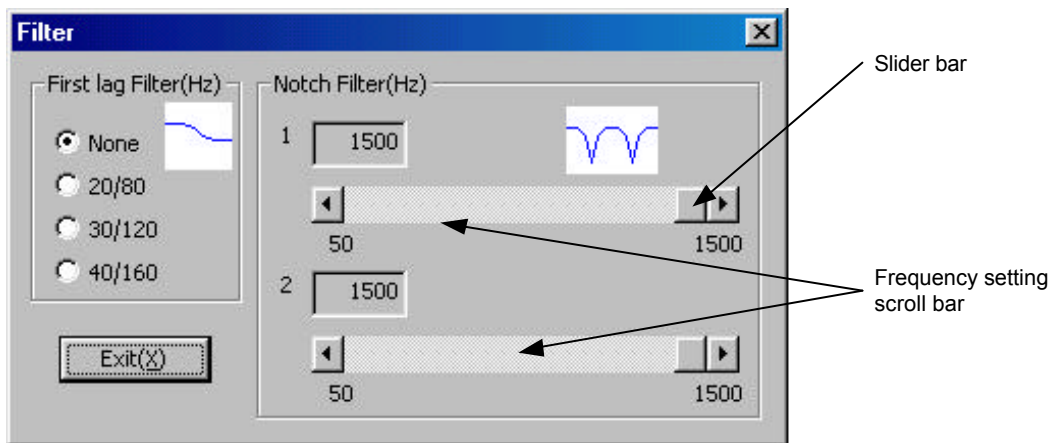

Figure 7.17 “Filter” dialog box
(3) Filter setting
Click “Filter (F)” under “Servo Tuning” to display the “Filter” dialog box (see Figure 7.17).